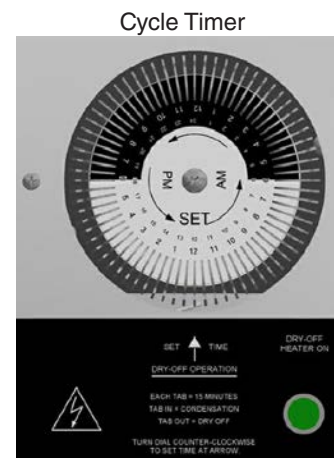

Figure 7.5d: The cycle timer is used to set the time for condensation and dry-off.
- The cycle timer (Figure 7.5d) is used to set timing for both the condensation and the dry-off functions.